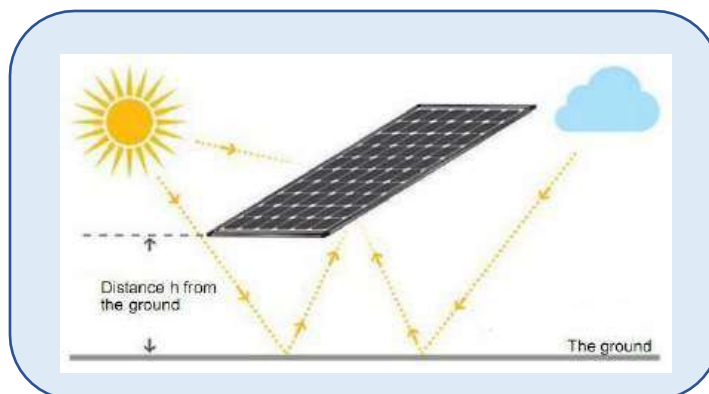

Fig. 6.2 Distance from the ground level
- F. Different ground clearance height will affect the power generation gain, it is recommended to install the module at a height from 0.5M to 1.2M. See Fig. 6.2.